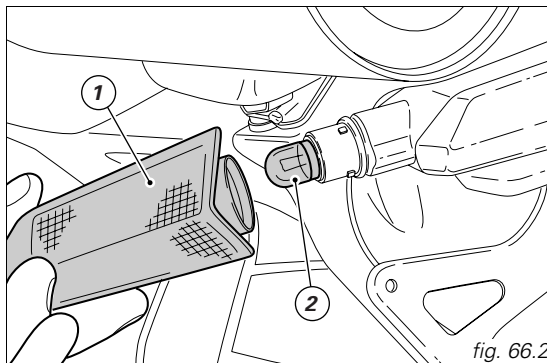

fig. 66.2
The bulb (2, fig. 66.2) is of the bayonet-type: press and twist counter-clockwise to remove. Change the bulb and refit by pressing and turning clockwise until it locates into its seat with an audible click. Refit indicator body (1) to its mount and rotate by a quarter of a turn.